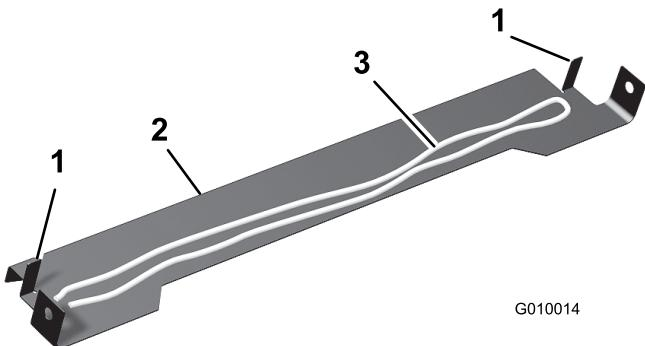

Figure 1
1. Apply 2 parallel beads of sealant to the bottom of the drive shield (Figure 1).
Note: Do not apply sealant in the area between the locating tabs and the front edge of the drive shield (Figure 1).